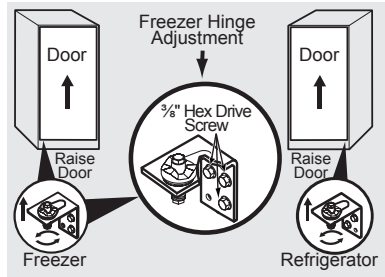

Figure 2
The doors may also be adjusted side to side with the slotted hinge for aligning the doors parallel to each other. Loosen the 3 screws with a  $\frac{3}{8}$ " wrench. Shift the doors until parallel, and then retighten the screws securely. (See Figure 2.)
1. If the refrigerator door is lower than the freezer door, raise the refrigerator door by turning the adjustment screw clockwise using a  $\frac{7}{16}$ " socket wrench. (See Figure 2.)
2. If the freezer door is lower than the refrigerator door, raise the freezer door by turning the adjustment screw clockwise using a  $\frac{7}{16}$ " socket wrench. (See Figure 2.)